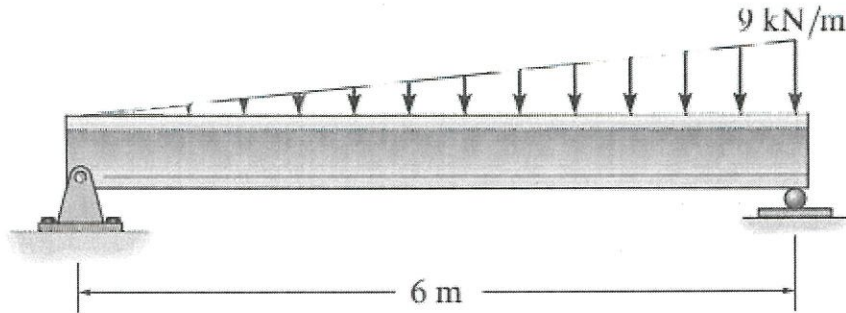

Figure Q4(b)
- (b) A half wing spar of ATR 42 aircraft can be modeled as cantilever beam subjected to a linear distributed load shown in **Figure Q4(b)**. If the beam is made of A36 steel ($E = 200$ GPa, $I = 99.2 (106) \text{ mm}^4$), determine the bending strain energy in the beam (14 marks)